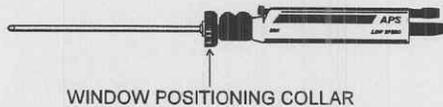

Figure 2-21. Window positioning collar.
a. Ensure that the window positioning collar (fig 2-21) on the handpiece is pushed rearward to lock it.